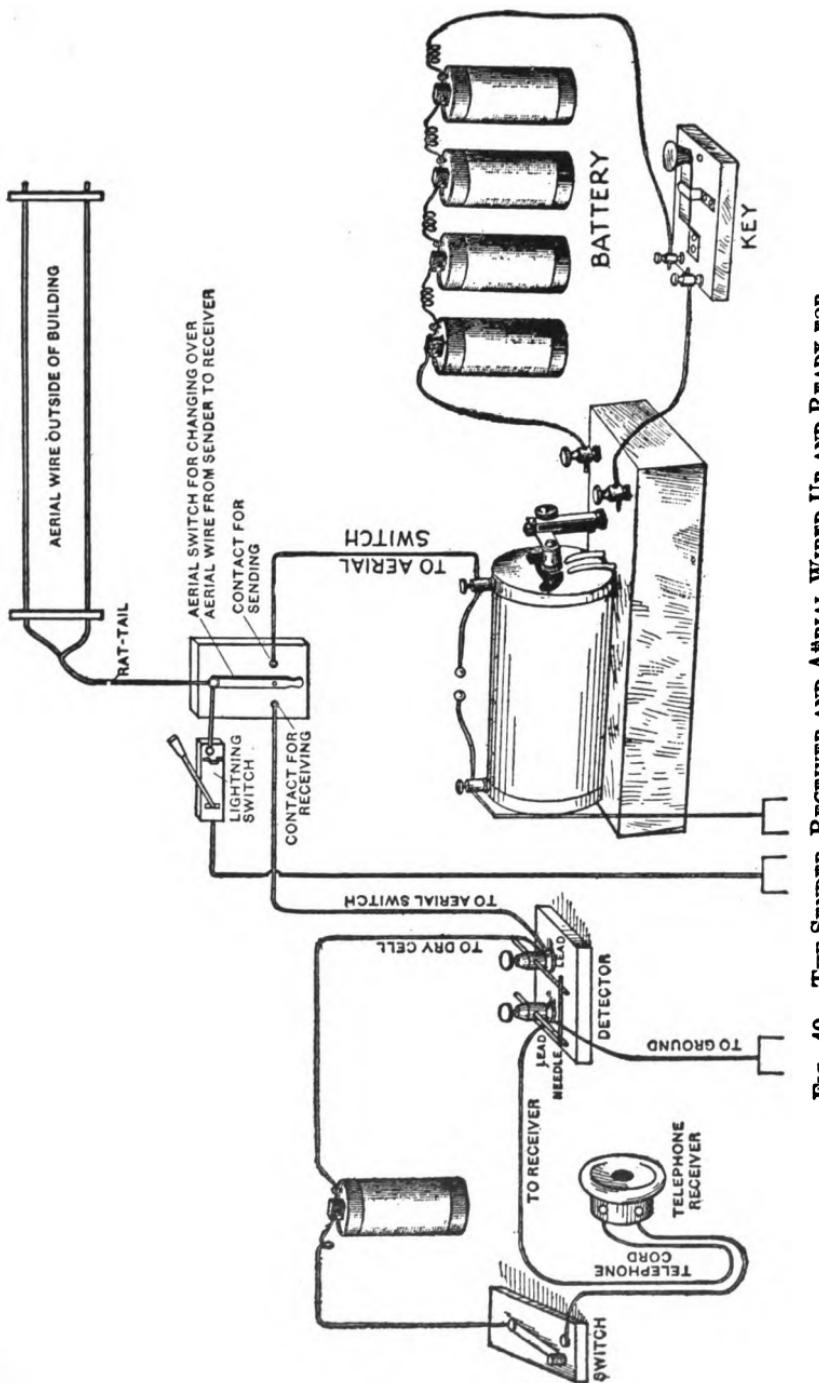

FIG. 40.—THE SENDER, RECEIVER AND AERIAL WIRED UP AND READY FOR BUSINESS.
**Connecting up the Sender and Receiver to the Aérial and Ground.**—Connect the top wire of the aérial switch to the leading-in wire of the aérial. To the left-hand lower wire of the aérial switch connect the wire of the binding post of the detector marked *to aérial* as shown in Fig. 40, which is a complete wiring diagram of the whole station. Connect the right-hand lower wire of the aérial switch to the binding post of the spark-gap marked *to aérial switch*. Connect the wire of the binding post of the detector marked *ground* with the sheet of zinc buried in the ground; and finally connect the binding post of the spark-gap marked *to ground* to the same wire that the detector is connected with and which leads to the zinc plate in the ground. In other words, one sheet of zinc furnishes a ground for both the sender and the receiver. All of the connections are clearly shown in the outline drawing Fig. 40.
A *single pole, single throw* switch must be connected in between the top wire of the aérial switch and ground wire as shown in Fig. 40. This switch is to protect your apparatus from what *is* called *static electricity*, that is electricity which charges the air and the ground just before the coming of a storm. When sending and receiving this switch is *open*, but always *close* it when you are through working. A switch of this kind can be bought, or if you want to make one you will find the drawings, Figs. 147 and 148, and description needed on page 151. Before using your set read the Fire Underwriters' Rules given in Chapter III, Part III, page 199.